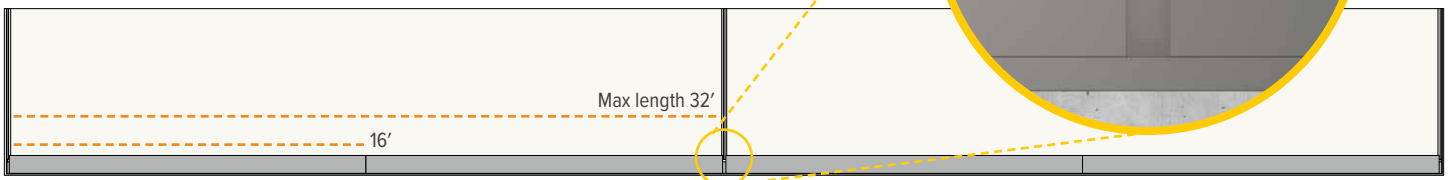

Figure 18.3
14. The two piece mid-wall vertical is used to allow room for Plank expansion when the maximum Plank length exceeds 32'. (Mid-wall vertical allows for Plank expansion) (\*\*WARNING\*\* max plank length is 32'). (Figure 18.3)